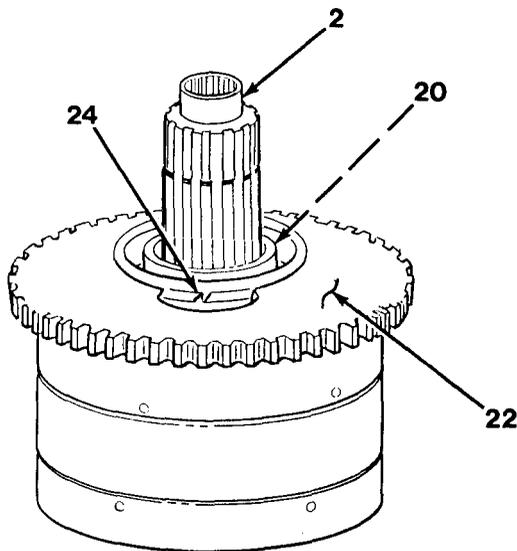

Figure 11-13
8. Install snap ring (20) on clutch shaft assembly (2, Figure 11-13).
9. Install snap ring (24), if removed, into gear and hub welded assembly (22).